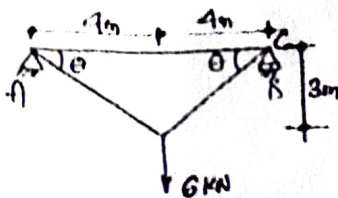

Fig.Q8
- 8 Determine the vertical and horizontal deflection of the point C, of the pin jointed frame shown in Fig.Q8. The cross sectional area of AB = 100 sqmm and BC and AC are 150 sqmm. Take  $E = 2 \times 10^5 \text{ N/mm}^2$ .